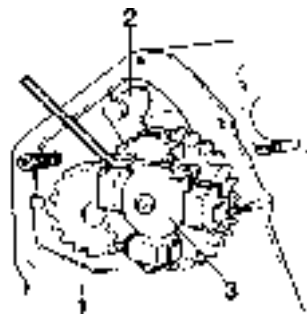

Fig. 70. Fitting the camshaft
- MD2010, MD2020: Fit the gear (1, Fig. 70) for the mechanical tachometer drive*.
- Oil in the camshaft's bearing races and carefully lift the camshaft in position complete with gear and regulator weights (together with the gear (1) for the mechanical tachometer drive* on MD2030 and MD2040.